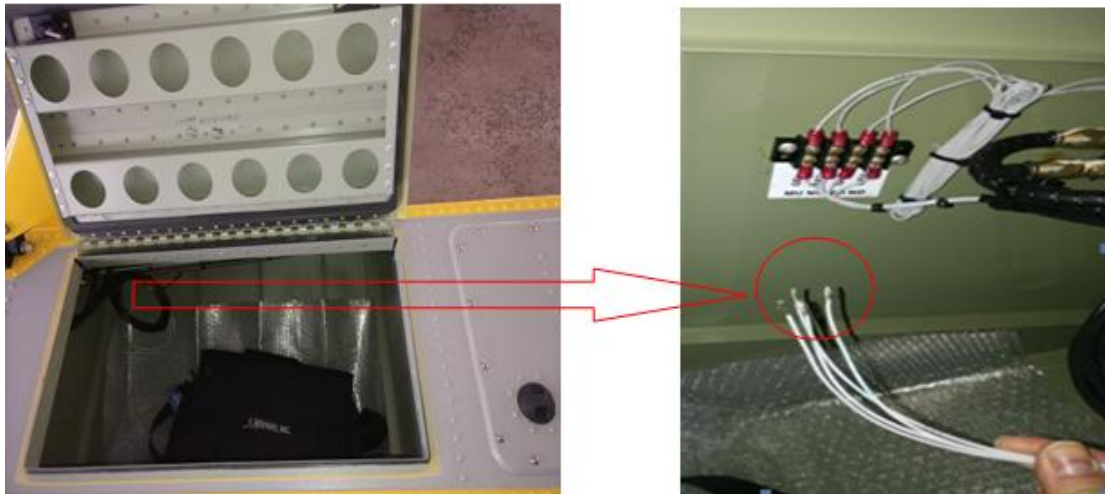

Figure 5 (The left side of float)
- (5) Remove the hand pump light SC23005-001 if desired^①.
- (6) Disconnect the left float landing gear control wires (GE1/GE2/GE3/GE4) and right float landing gear control wires (GE5/GE6/GE7/GE8) in the float control box. Remove the harness if desired^①. (Figure 5)